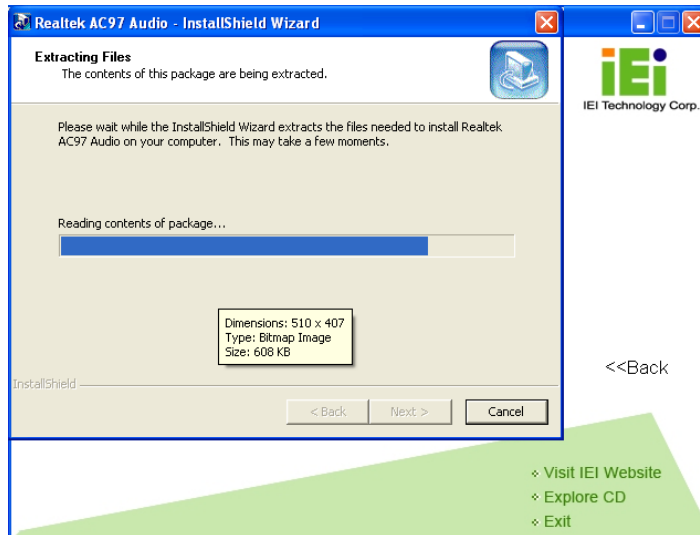

Figure 6-25: AC'97 Driver Installation File Extraction
Step 2: The installation files are extracted as shown in Figure 6-25.